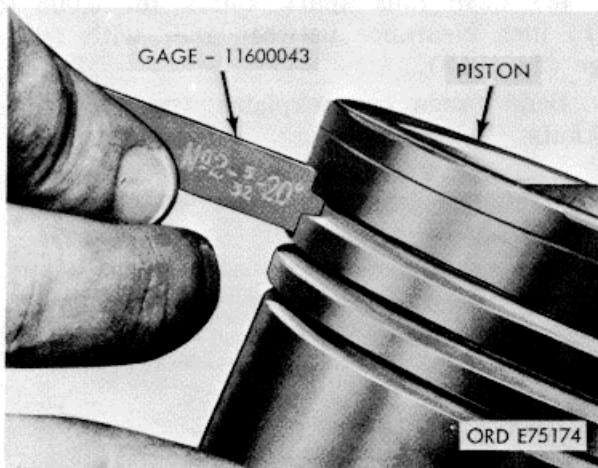

Figure 3-11. Ring groove wear check.
(1) Bolt head must rest squarely on milled surfaces of rod.
(2) With rod bolt in connecting rod and cap, measure bolt length without torque applied, then measure bolt length with it torqued to 105/115 ft lbs. If bolt length increases over 0.015 inch it must be discarded.
(3) Discard all bolts and nuts that have distorted threads.
(4) Check bolt hole diameter, if it exceeds 0.5643 inch, discard rod.
(5) Check bolt pad corner radius (0.25 0.2700 inch). If radius does not check to tolerance, machine to proper dimensions.
n. Using ring groove wear gage (52, fig. 28) check groove wear as follows: (fig. 3-11)